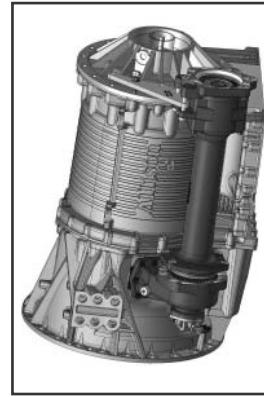

Fig. 10
11. The tube assembly is lined up and inserted into the Input Housing. As this is done, the bolts for the bracket should be started into the rear of the transmission (**Fig. 10**).